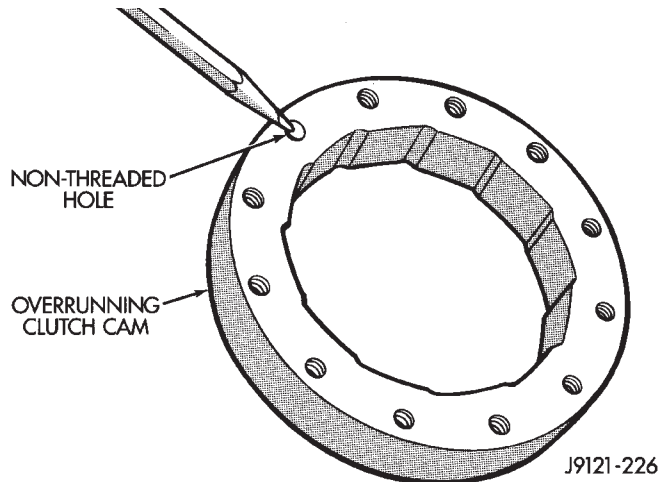
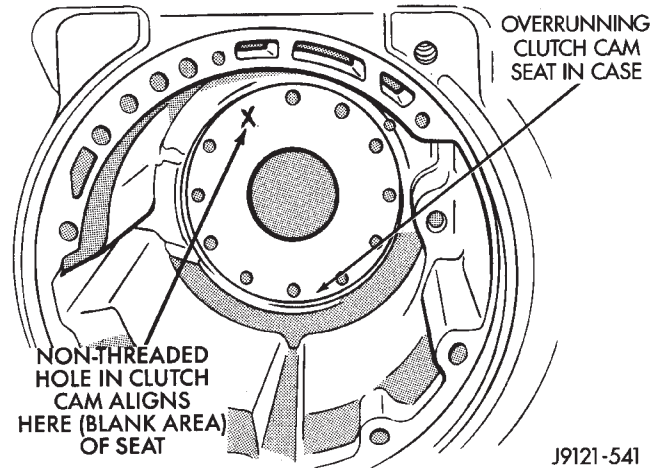

Fig. 139 Location Of Non-Threaded Hole In Clutch Cam
Fig. 140 Location Of Blank Area In Clutch Cam Bolt Circle
(1) Examine bolt holes in overrunning clutch cam. Note that one hole is **not threaded** (Fig. 139). This hole must align with blank area in clutch cam bolt circle (Fig. 140). Mark hole location on clutch cam and blank area in case with grease pencil, paint stripe, or scribe mark for assembly reference.
(2) Mark location of non-threaded hole in clutch cam and blank area in bolt circle with grease pencil.